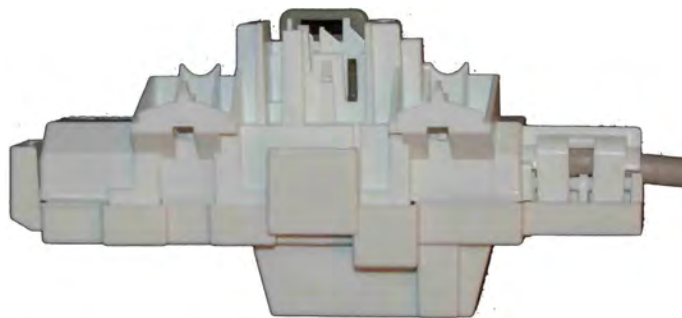

Figure 2 - Lid Lock
4. Check the resistance of the heater element (abnormal = infinity). See Figure 2.